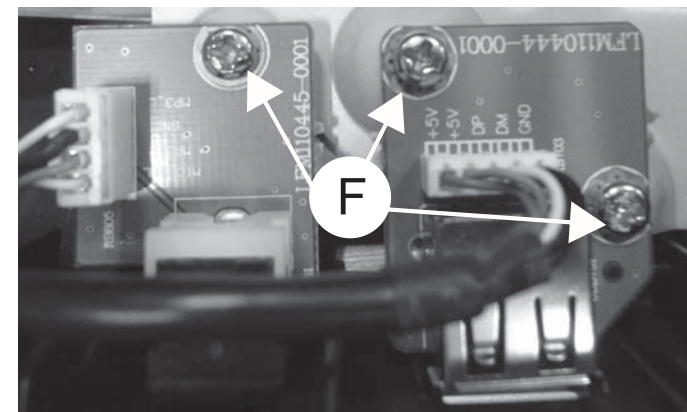

Figure 6
- 1) Loosen 3 screws "F" on the top of MP3 & USB Board as shown in figure 6.